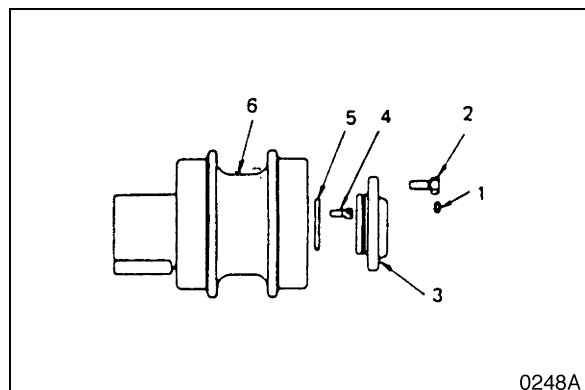

Figure 48
3. Install the axle, washer (5, Figure 48) and bolt (4).
4. Attach O-ring (11, Figure 39) to the roller (6, Figure 48) and cover (3).
5. Insert the O-ring (11, Figure 48) to the cover. Attach cover (3) and bolt (2) to the roller.